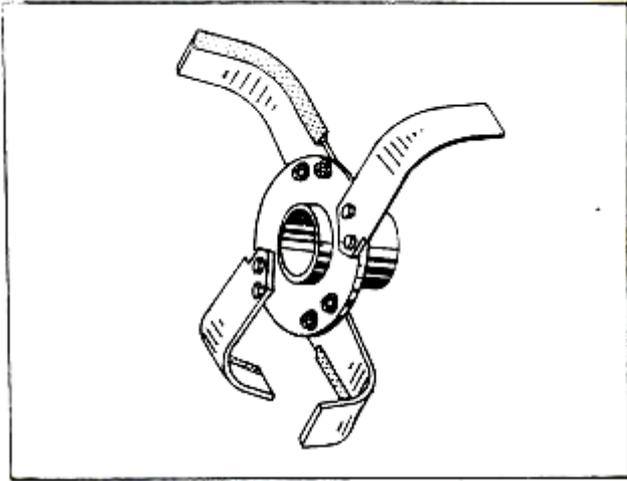

Figure 9. Position of blades 2L + 2R
2. Tighten them with screws to their bearings, so that the left "leader" blade on each section is fixed to the bearing so that the opening $\varnothing 5$ is in the center of the blade. Each section bears 2 left and 2 right blades or 3 left and 3 right blades (Figures 9 and 10, Position of blades on rotor bearings).